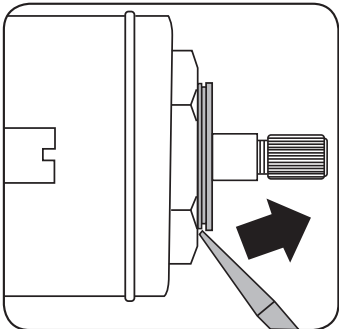

Figure 3
2. Remove the grey adjustment ring by placing the blade of a knife into the groove and prying it off (see Figure 3).